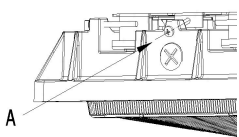

Figure 1
- STEP 1.** Loosen (but do not remove screw A (see Figure 1), which holds the mounting plate in place).